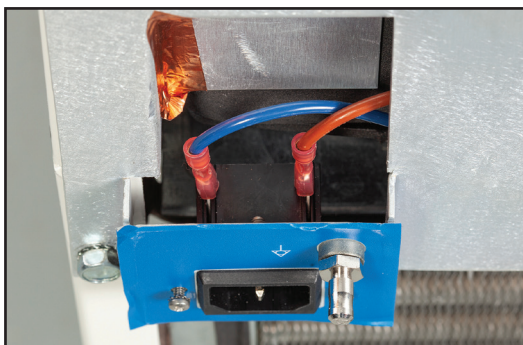

Fig 8-39 Placement of power inlet wires (blue on left, red on right)
6. Route the two (2) power inlet wires through the opening and reconnect them to the power inlet module. Note the orientation of the wires (see figure 8-39).
8. Reinstall the power supply, ensure the two (2) ground wire ring terminals are installed with the upper right screw on the circuit card.
9. Reinstall the jumper to the AC PCB and connect the two (2) lower main harness connections on the power supply board.